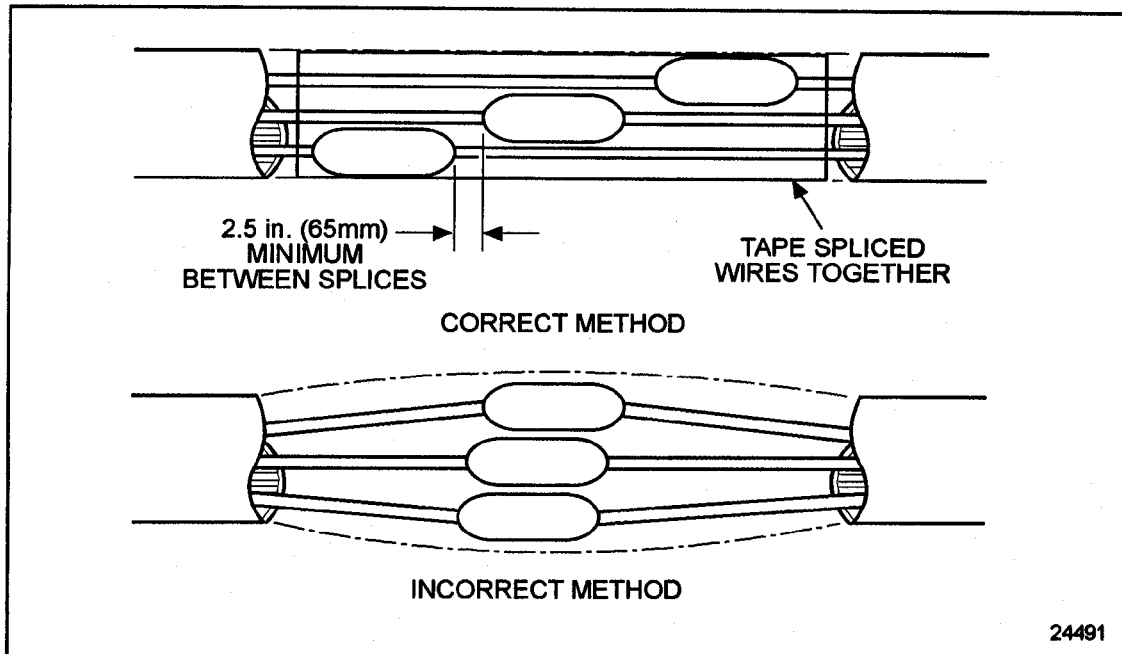

Figure 8-41 Multiple Splices
1. Stagger the position of each splice. See Figure 8-41.